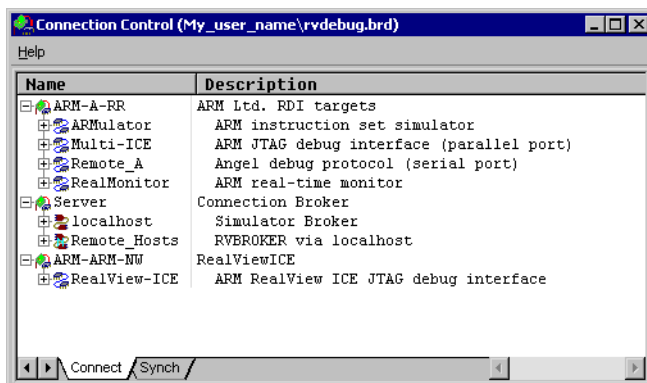

Figure 6-7 Hosts file in the Connection Control window
2. Display the Connection Control window where the new connection entry is visible, shown in Figure 6-7.